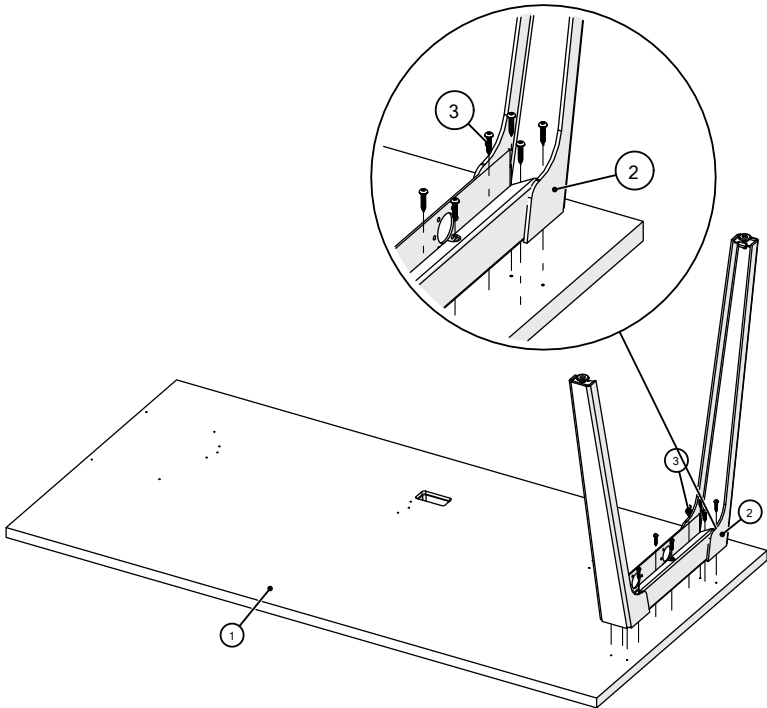

Figure 1
2. Position the A-leg over pilot holes in underside of worksurface; attach the A-leg to worksurface using the (10) #10 x 1" Pan Head Screws, (Figure 1).